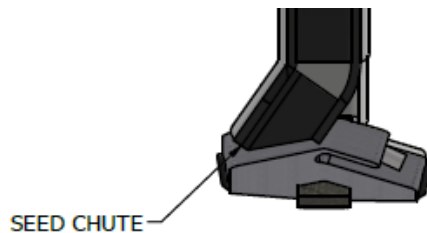

Figure 2: Seed chute on "left" opener
- 1) Bolt openers to shank using the provided $\frac{3}{8}$ " x 2 $\frac{1}{4}$ " bolts and nuts. Use the bottom holes on the opener to mount on the shank. Install the openers with the seed chute pointed to the center of the drill (see Figure 2 below).
High-rate side band liquid and NH₃ openers must be installed with the seed chutes oriented to the center of the drill. A “left” opener will have the seed chute on the left side as seen in Figure 2.